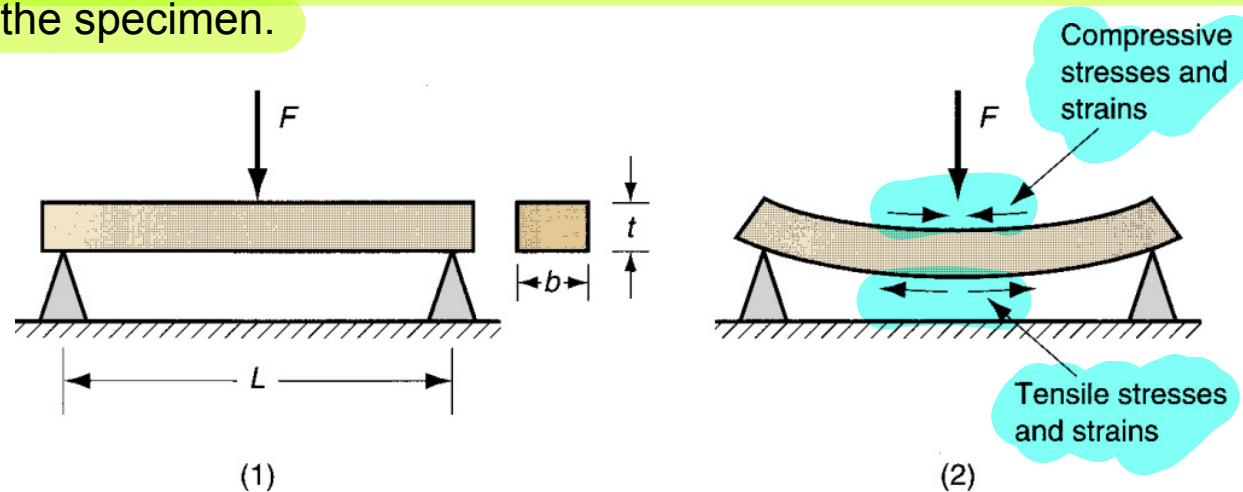

Fig. 3-11: Bending test setup and specimen: (1) initial loading, and (2) highly stressed and strained specimen
- Bending operations: used to form metal plates and sheets (Fig. 3-11; showing the setup of the bending test). Bending results in two stress (and strain) components; tensile in the outer half of the bent section and compressive in the inner half.
where *TRS* is in MPa, *F*: the applied load at fracture in N, *L*: the length between supports and *b* and *t* are dimensions of the cross-section in mm (Fig. 3-11)